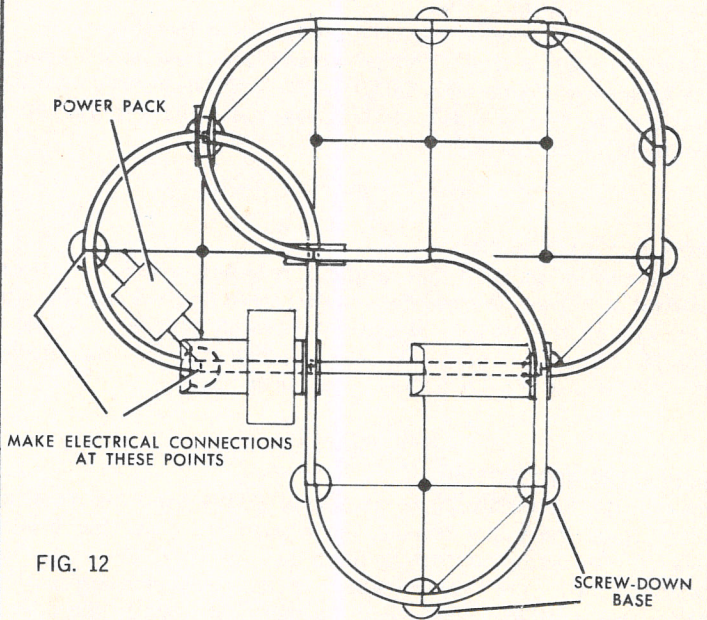
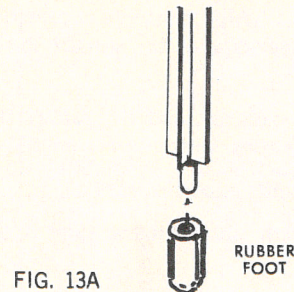
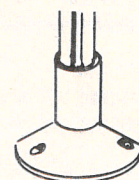

FIG. 12
FIG. 13A
FIG. 13B
□ **STEP 16.** Complete the track layout by installing the remaining track sections as shown in Fig. 12.
□ **STEP 17.** If the layout is going to stand freely on the floor, a rubber foot should be pressed on the bottom of each of the stanchions (Fig. 13A) to keep the layout from sliding around. If the layout is to be screwed down permanently to a piece of plywood (you will need a piece 36 inches by 36 inches, 1/2 inch thick) then plastic stanchion bases should be snapped on the stanchions (Fig. 13B) in locations shown in Fig. 12.
Electrical connections between the track and the power pack can be made at any piece of track but in this layout they are most convenient at the curved track shown in Fig. 12. Here is the way to do it.